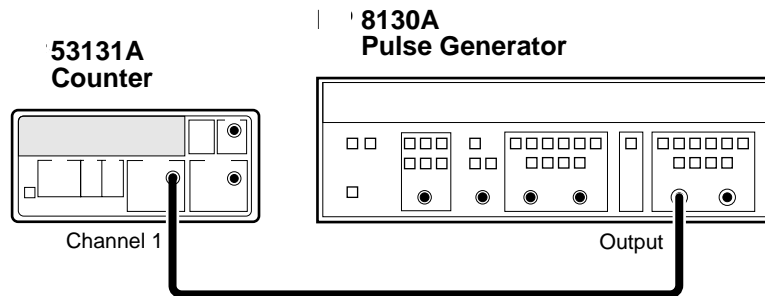

Figure 2-3. TI Calibration Setup
- 3 Connect the Agilent 8130A Pulse Generator output to Channel 1 of the Counter as shown in Figure 2-3.**